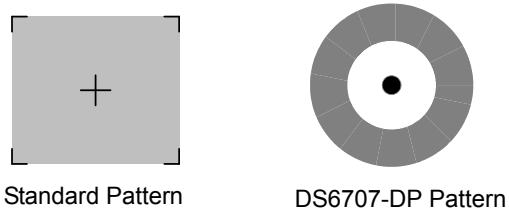

Figure 2-3 Laser Aiming Pattern
- When the digital imager scanner senses movement, in its default **Auto Aim** trigger mode, it projects a red laser aiming pattern (*Figure 2-3*) which allows positioning the bar code or object within the field of view. (To turn off the default **Auto Aim** trigger mode, see *Trigger Mode on page 4-8*.) If necessary, the digital imager scanner turns on its red LEDs to illuminate the target bar code.